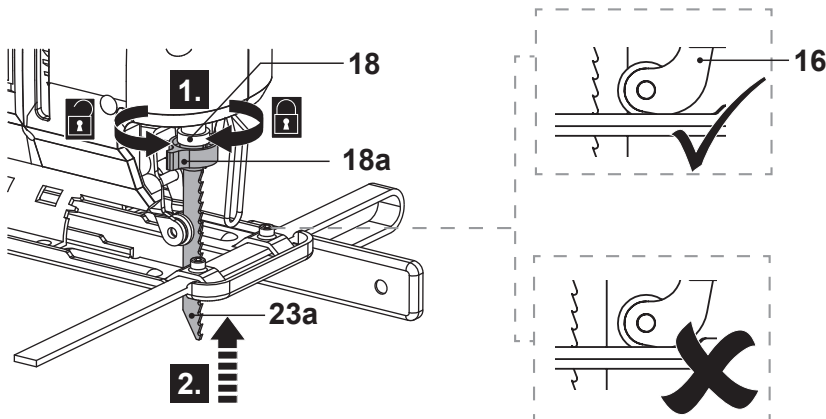

Fig 1
- > Press the release lever (18a) and hold it in position (Fig 1, step 1).
- > Insert the required saw blade (23a, 23b) into the tool socket (18) all the way to the stop (Fig. 1, step 2). Ensure the blade edge sits properly against the blade guide (16).